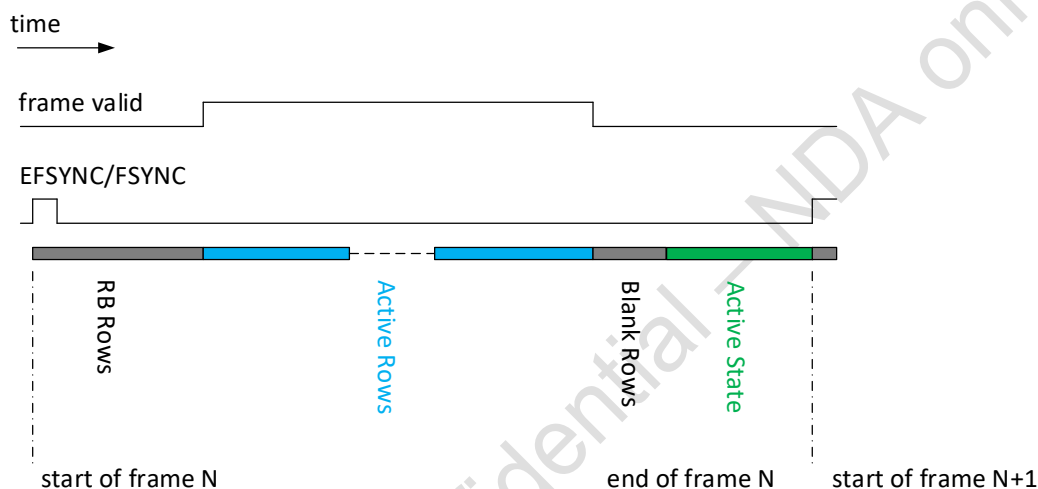
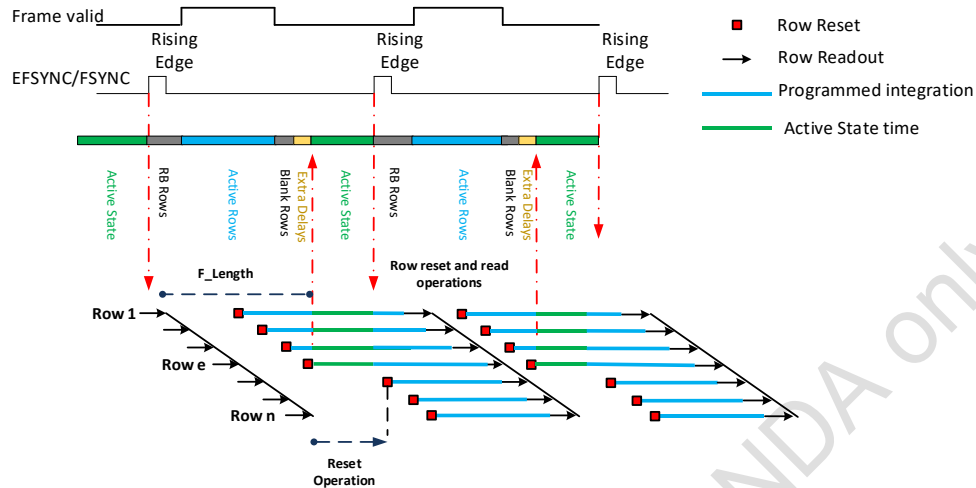

Figure 2-1 Slave mode timing diagram
Figure 2-2 Slave mode exposure implementation chart
In the slave mode, data output of this chip is triggered by an external signal applied to the EFSYNC pin or FSYNC to achieve synchronization of multiple sensors. The frame rate is determined by the triggering signal. Figure 2-1 shows the timing diagram of the slave mode which consists of the following time intervals: Active State, RB Rows, Active Rows, Blank Rows, and Extra Delays. The exposure implementation in the slave mode is shown in Figure 2-2.
From Figure 2-1, the slave mode workflow can be detailed as follows:
The exposure in the slave mode is shown in Figure 2-2.
- 3) During Active State, the chip stops output and stops the Row reset operation, as shown in Figure 2-2. This will result in exposure time being different in a frame image such that the exposure Row1 to Row e and Row (e + 1) to Row n having different integration time, resulting in the exposure time of Row 1 ~ Row e being larger than the Row (e+1) - Row n. The time difference is Active State time as shown as Reset Operation time in the diagram. In order to avoid this exposure difference, the external high precision control EFSYNC/FSYNC is required to keep the Active State within 40ns, ensuring the exposure time of each row in one frame is basically consistent.